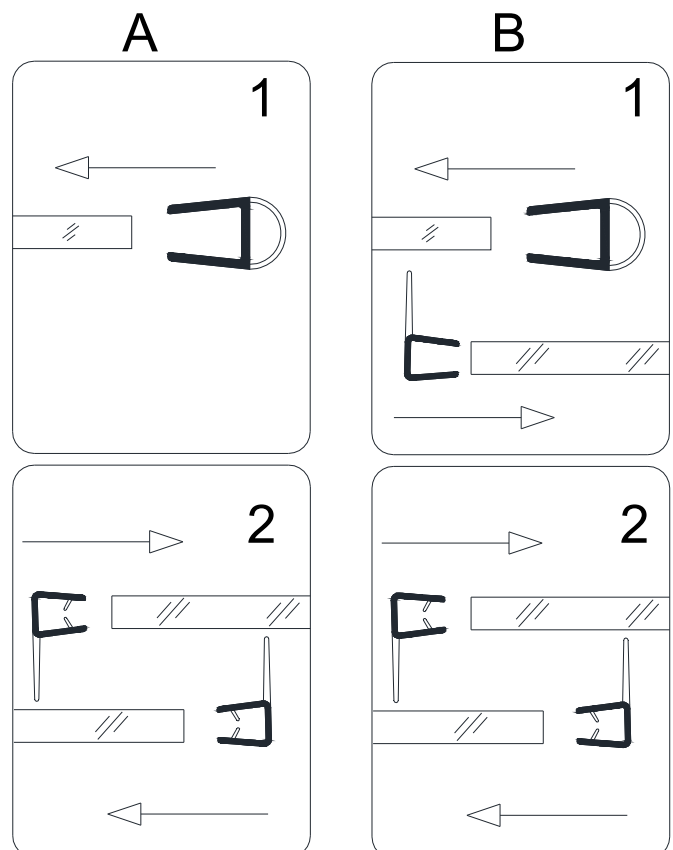

Fig. 18
15. Press the **Bumper strip (13)** on the vertical edge of the **Glass door (05)** and also press the **Anti-water strip (17)** on the vertical edges of the **Stationary glass (02)** and the **Glass door**.
See Fig. 18 (A) for details.
Press **Anti-water strip (25)** on the vertical edge of the **Small Stationary glass (24)** if width of your unit is **72"** as shown in Fig. 18 (B)